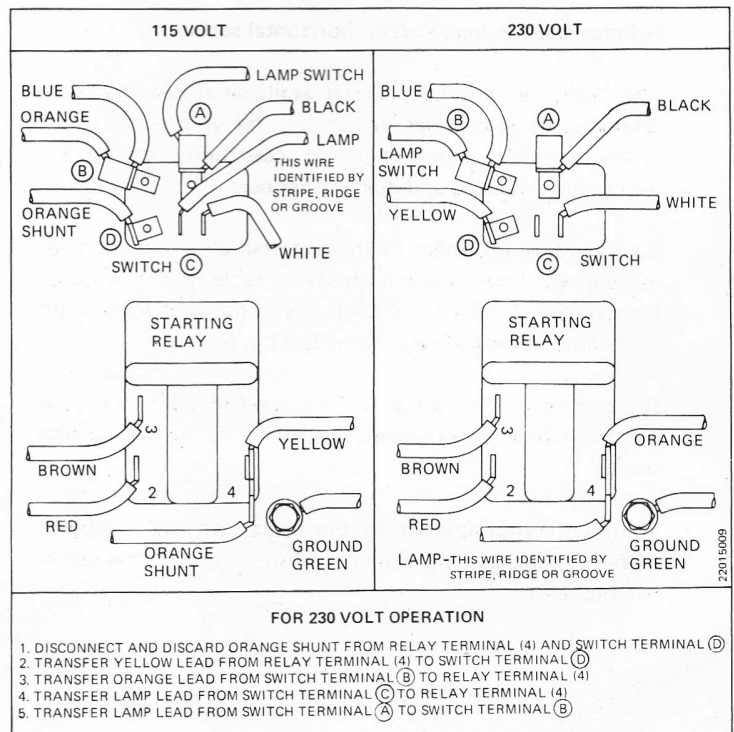

FIGURE 12
2. Study diagram (figure 12) and make changes as directed to revise internal connection for 230 volt operation.